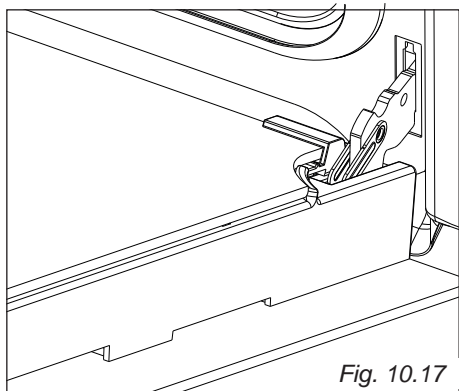

Fig. 10.17
- Gently close the door (fig. 10.15) until left and right hinge levers "A" are hooked to part "B" of the door (fig. 10.17).